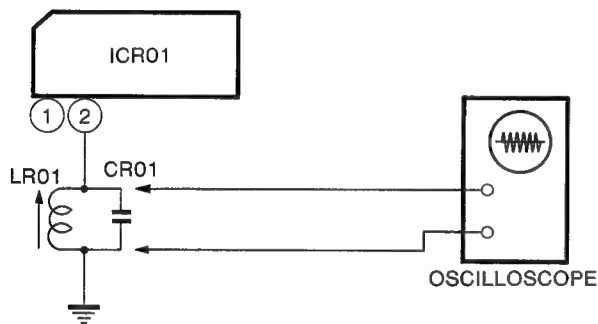

Figure 19.
3. Connect an oscilloscope across CR01 (See figure 19.)